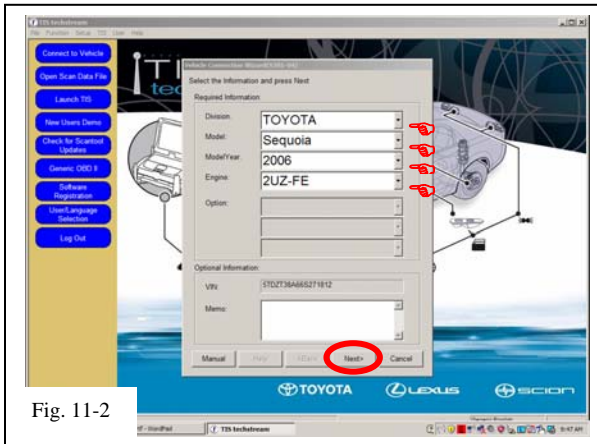

Fig. 11-2
- Confirm that the information displayed on the Vehicle Connection Wizard is correct. If not, make the appropriate selections from the Drop Down Menus then click “**Next**”. (Fig. 11-2)